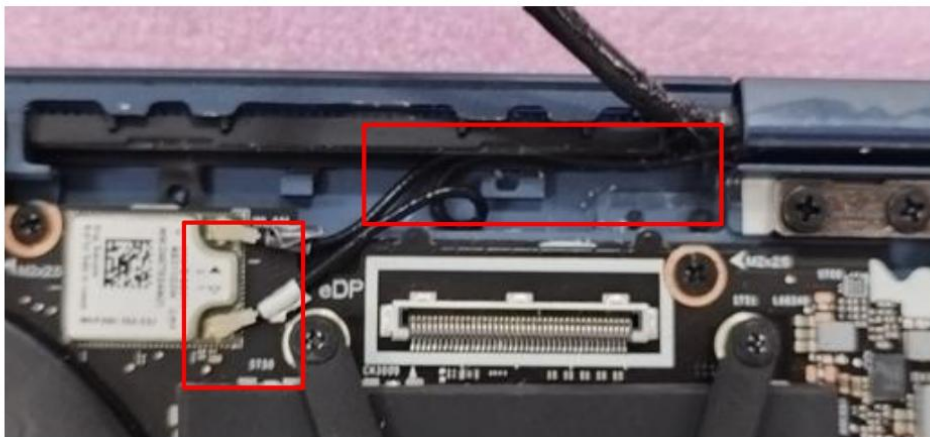

Figure 1
1. Unplug the WLAN terminal 1/2 (Figure 1).